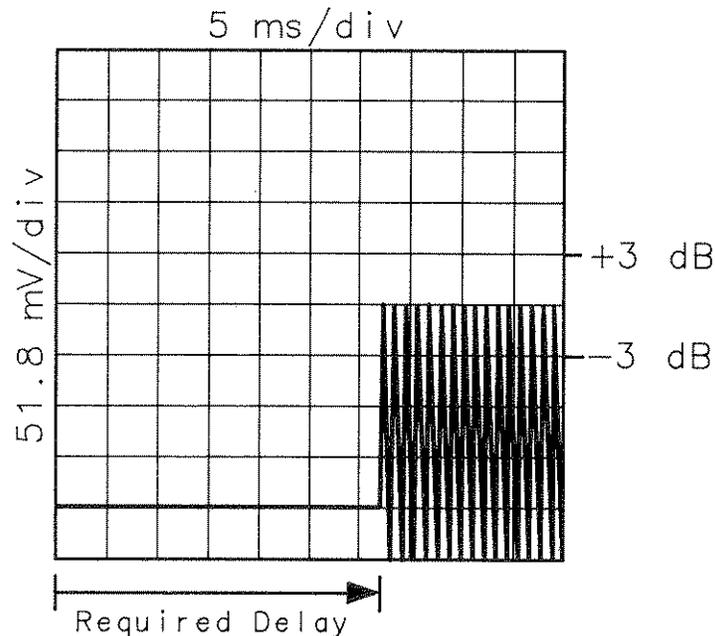

Figure 4-15. Amplitude Recovery Switching Waveform
24. Press the digitizer (STORE M1) key on the oscilloscope and then step the Signal Generator to the stop frequency (6 600.000 MHz). The oscilloscope should digitize the switching waveform as the frequency changes. The waveform should be as shown in Figure 4-15.